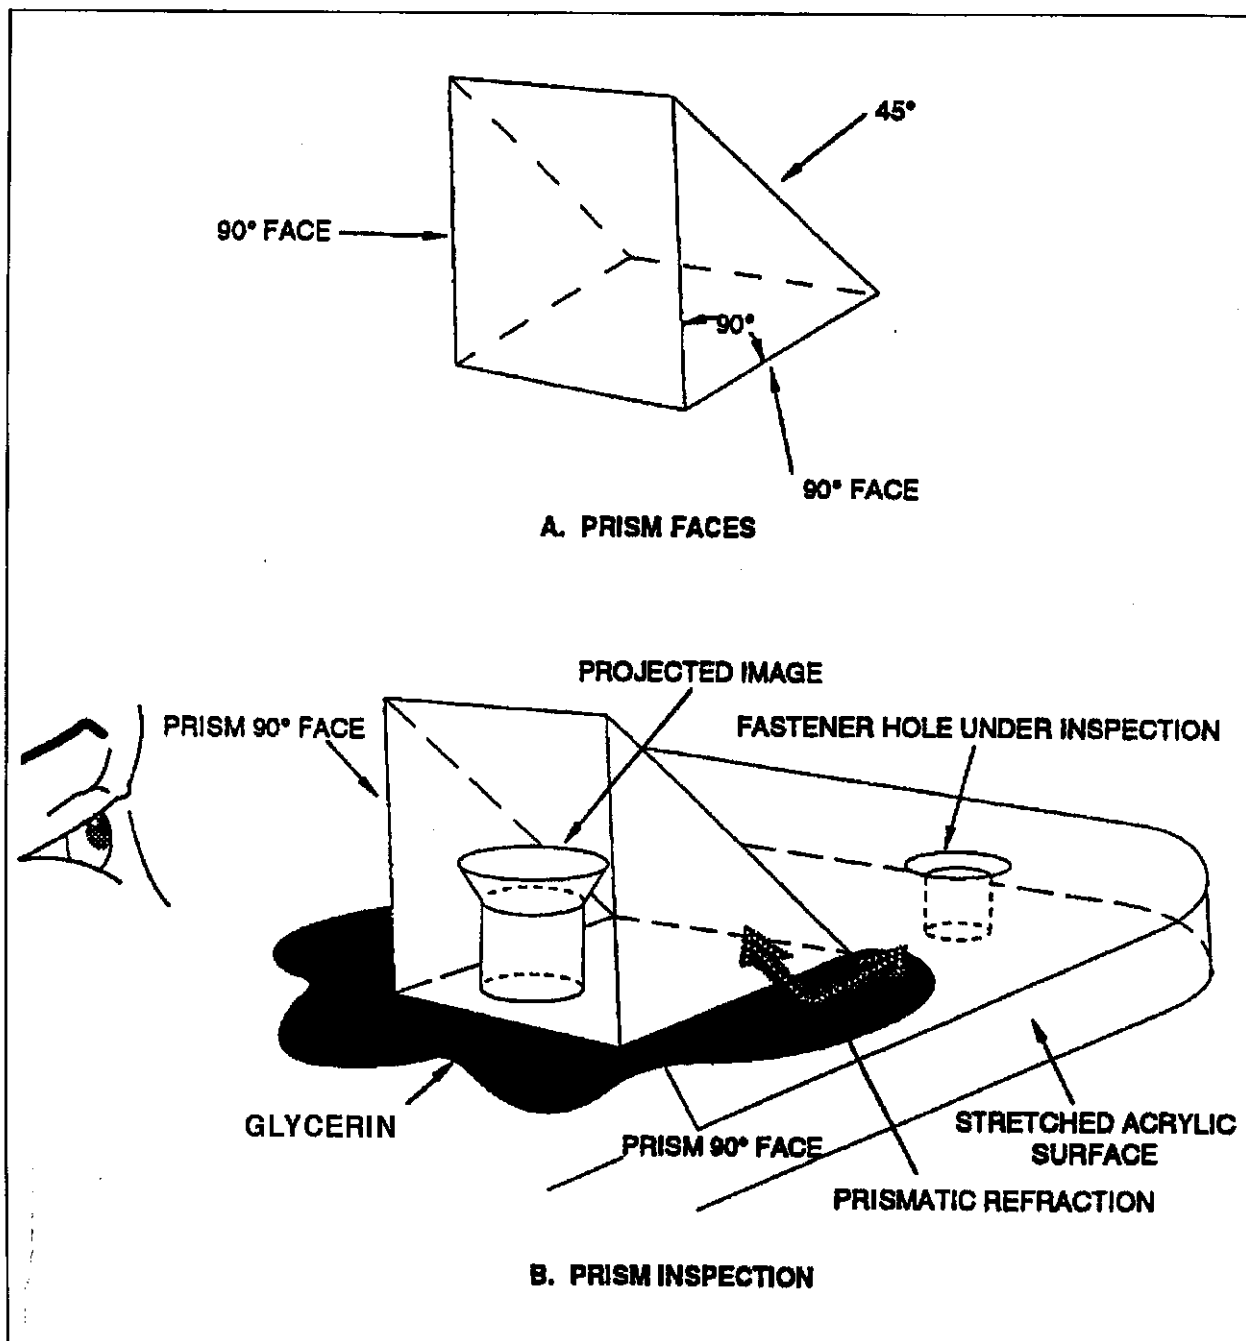

Figure 14-APP-2. Visual Inspection
- (g) The image of a cracked hole will appear as a frosted or reflective projection extending from the hole (see detail A-A, Figure 14-APP-3).